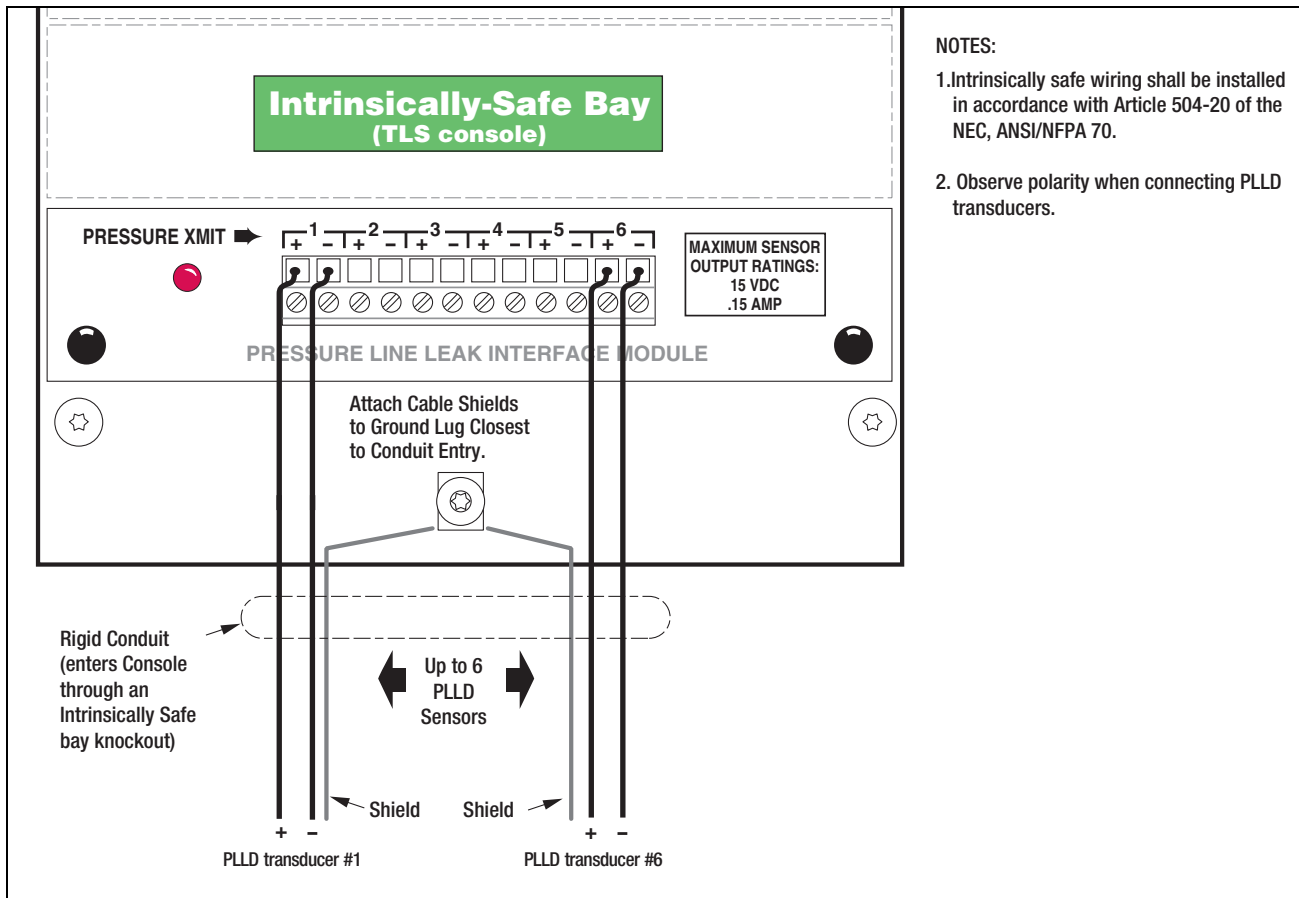

Figure 17. PLLD Interface Module Wiring Connections
1. Connect the color-coded or marked wires from each PLLD transducer to the proper terminals on the PLLD Interface module connector starting with position 1 (see Figure 17). Wire each position on the module(s) in order without skipping a position, e.g., 1, 2, 3, 4, etc., not 1,3,4.